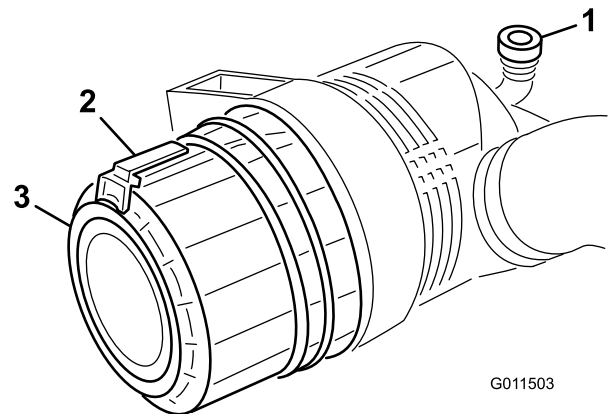

Figure 46
1. Pull the latch outward and rotate the air cleaner cover counterclockwise (Figure 46).
7. Install the cover orienting the rubber outlet valve (Figure 46) in a downward position - between approximately 5:00 to 7:00 when viewed from the end. Secure the latch.